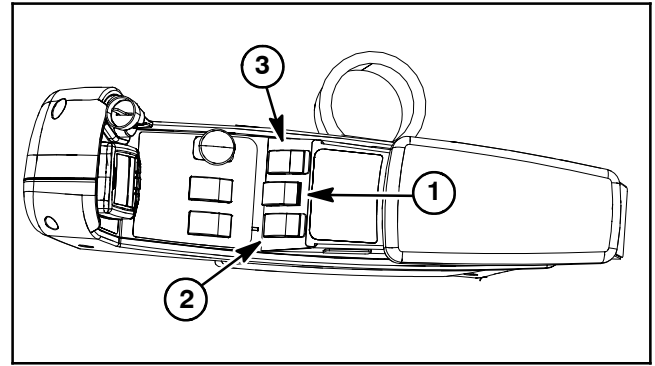

Figure 16
The Groundsmaster 4700- D has three (3) lift switches to control the cutting decks (Fig. 16). The center switch is for the five (5) center decks, the left switch controls the left, rear deck (#6) and the right switch controls the right, rear deck (#7) (Fig. 17).